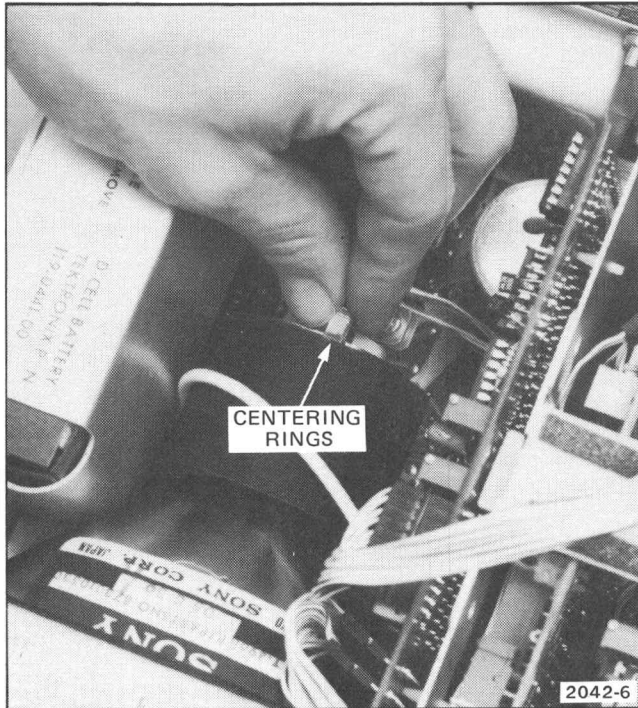

Figure 4-2. Yoke connector, P641, and spot centering rings.
c. **ADJUST**—Centering Rings for centered spot. Refer to Fig. 4-2.